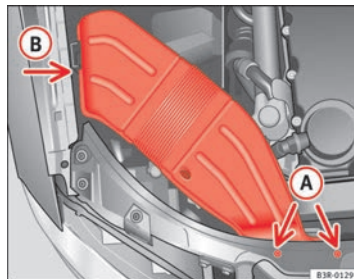

Fig. 204 Air duct on right side of vehicle
- Unscrew bolts (A) ⇒ page 265, fig. 204.
- Detach air duct from guide (B) and take it out. ■